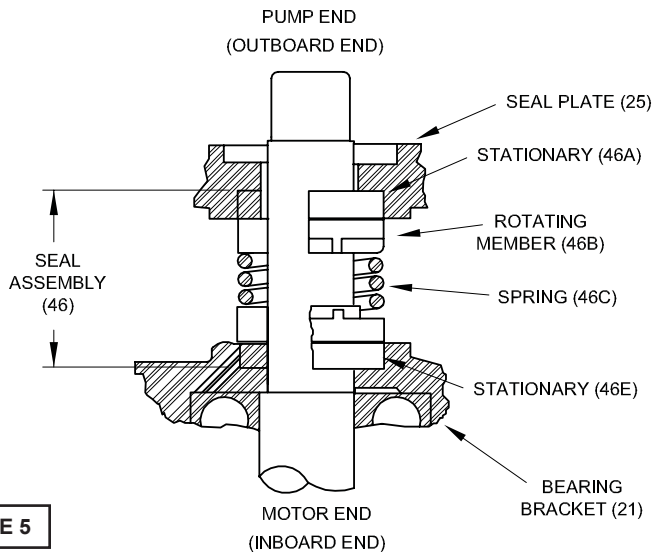

FIGURE 5
Seal - To expose shaft seal (46) for examination, complete above procedure and slide off outboard rotating member (46B). See Figure 5. Remove inboard rotating member (46D), from shaft. Examine all seal parts and especially contact faces. Inspect seal for signs of wear such as uneven wear pattern on stationary members, chips and scratches on either seal face. **DO NOT** interchange seal components, replace the entire shaft seal (46).